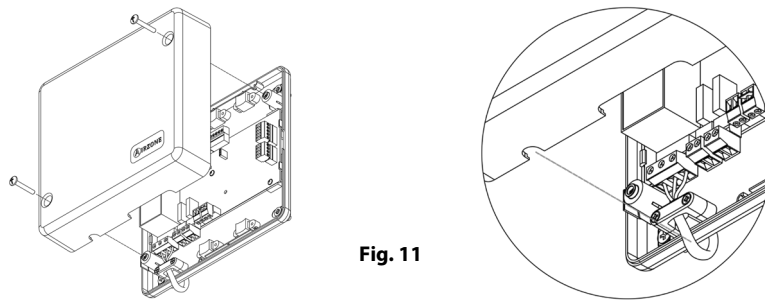

Fig. 11
**Remember:** Once all the connections are made, make sure you replace the cover properly (Fig. 11).